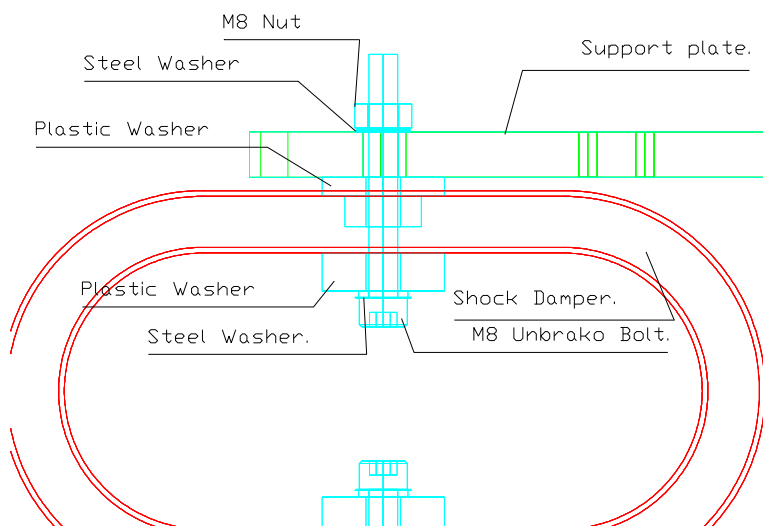

Fig. 6. Detail sketch of the support plate - shock damper connection
- ? Unscrew the 4 nuts holding the support plate. Remove the nut, bolt and steel washers and bottom plastic washer. Fig. 6 shows the details of the connection between the support plate and the shock dampers. Here the fork spanner #13 and the allen key #6 can be used.